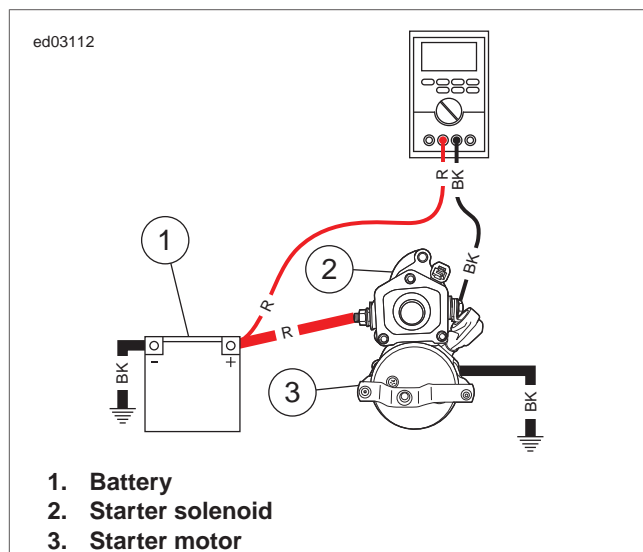

Figure 1-23. To Starter Solenoid Starter Terminal
2. See Figure 1-23. Connect the red meter lead to the positive battery post. Connect the black meter lead to the starter side post of the starter solenoid and observe the meter reading. Crank the starter and observe the meter reading. The difference in the voltage is the voltage drop.